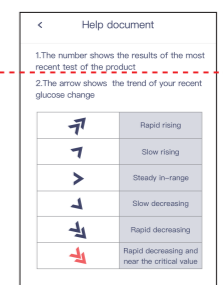

Figure 16 Trend Arrows
- The meanings of the trend arrows are shown in Figure 16.